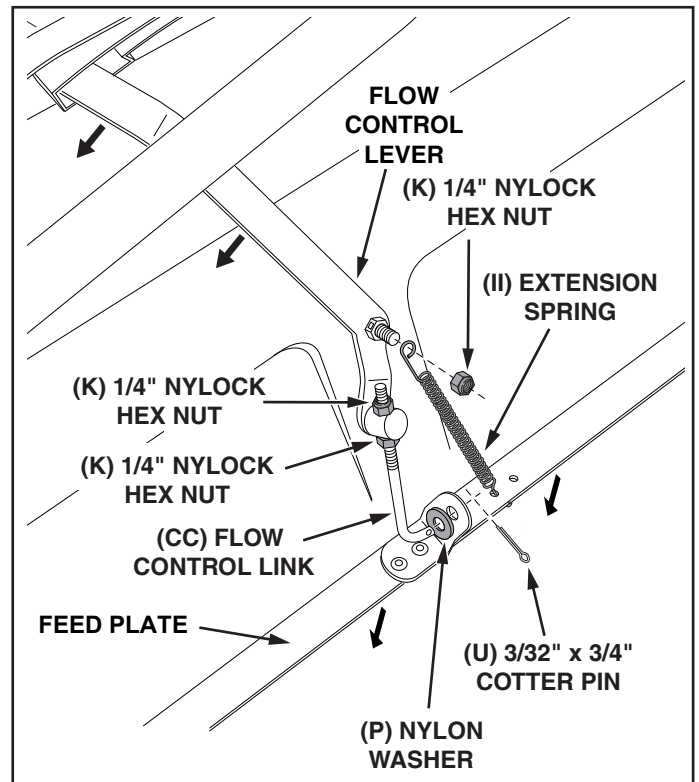

FIGURE 10
24. Move the flow control lever as far as it will go to the "OFF" position. Push the feed plate back as far as it will go to the closed position. See figure 10.
25. Place a nylon washer onto the bent end of the flow control link and then insert the link into the feed plate bracket. Secure it with a 3/32" x 3/4" cotter pin. See figure 10.
26. Tighten the lower 1/4" nylock hex nut until it touches the bottom of the ferrule, then tighten the upper 1/4" nylock hex nut until it is snug against the top of the ferrule. See figure 10.
27. Hook the open end of the spring into the feed plate. Place the closed end of the spring onto the end of the hex bolt in the flow control lever. Secure it with a 1/4" nylock hex nut. See figure 10.
28. Open and close the feed plate using the flow control lever. Check to make sure the feed plate is closed completely when the lever is in the "OFF" position. If the feed plate does not close completely, adjust the 1/4" nylock hex nuts on the flow control link. See figure 10.